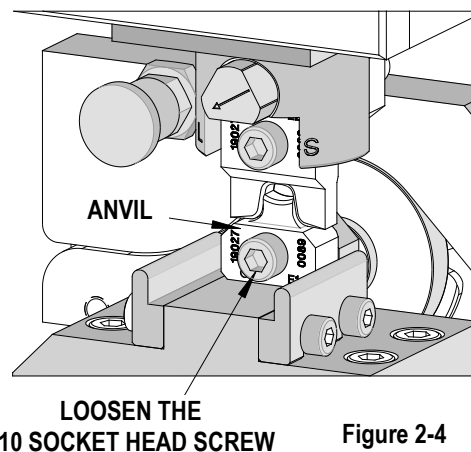

Figure 2-4
2. Using a 5/32" hex wrench, slightly loosen the anvil mounting screw. See Figure 2-4.